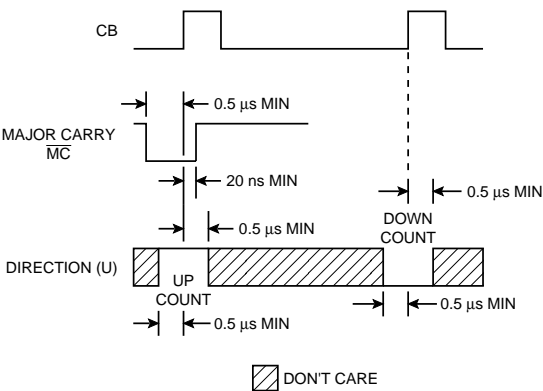

FIGURE 11. DIRECTION OUTPUT (U) TIMING
Direction Output (U) timing is shown in FIGURE 11. It is at logic 1 to count up and logic 0 to count down. The logic level at (U) is valid at least 0.5 μs before and at least 20 ns after the leading edge of CB.